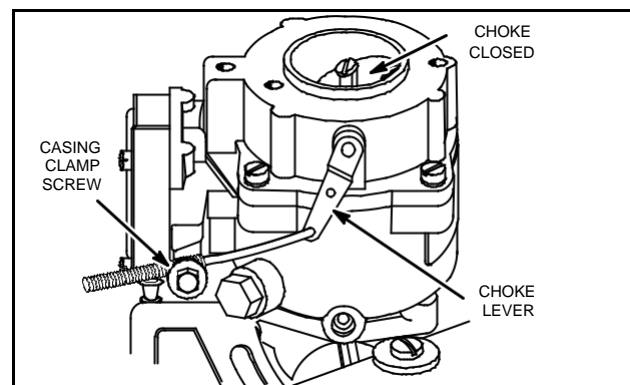

Fig. 9 – Adjust Choke
4. Tighten casing clamp screw, Fig. 9.